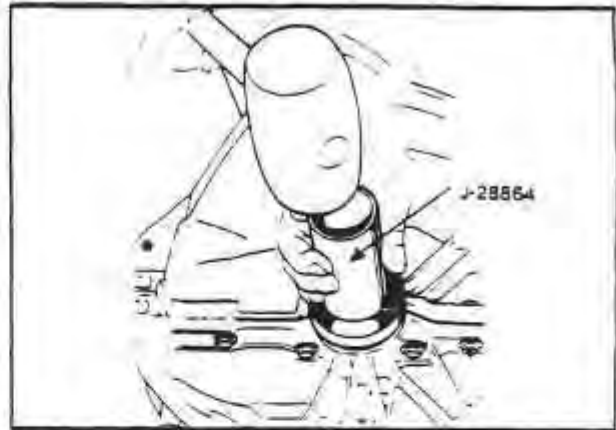

Fig. 27 CONVERTER SEAL INSTALLATION
4. Fit the new seal in the housing with the lip on the seal facing the transmission. Install the seal using Tool J28864 and a mallet, *Fig. 27*